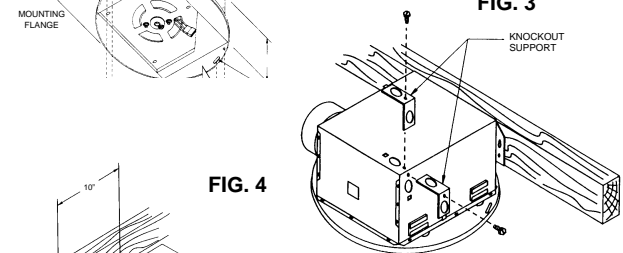

FIG. 3
OPTION #1: Attach housing directly to ceiling joist using (4) screws or nails. See Fig 3. Flange on housing should drop below bottom of ceiling joist a distance equal to the thickness of the sheetrock and plaster.
NOTE: The knockout support may be reversed if desired, to open alternate knockout hole and cover unused hole. See Fig. 3. If both holes are to be used, simply remove knockout.